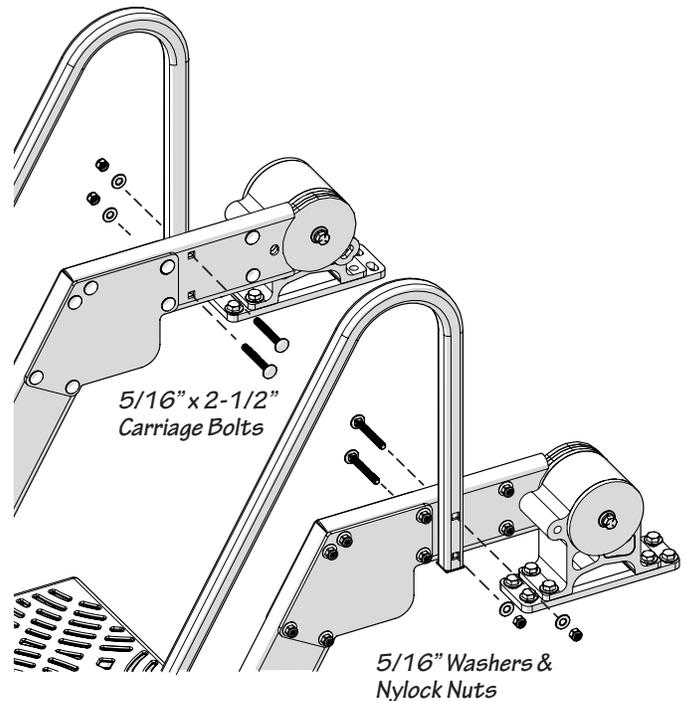

Fig. 8-1
- One worker holds the Nauti Steps along the outside. The second worker aligns the mounting holes of the hand rail and upper frame rail, as shown in Figure 8-1.
- Insert two 5/16" x 2-1/2" carriage bolts from the inside of the Nauti Steps (see Figure 8-1). Add a 5/16" washer and Nylock nut to each bolt end.